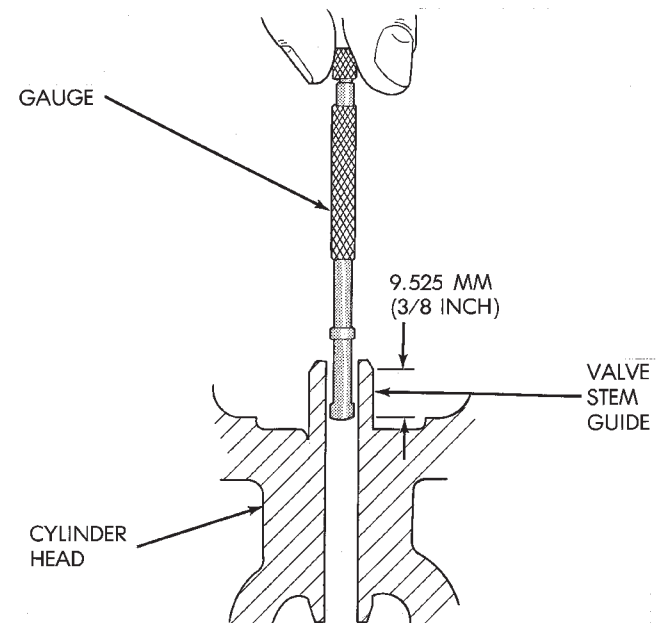

Fig. 63 Measurement of Valve Guide Bore Diameter
- (1) Remove the valve from the head.
- (2) Clean the valve stem guide bore with solvent and a bristle brush.
- (3) Insert a telescoping gauge into the valve stem guide bore approximately 9.525 mm (.375 inch) from the valve spring side of the head (Fig. 63).